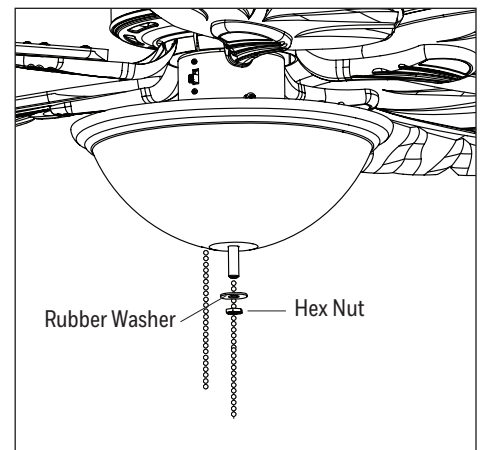

Figure 5.9
- Feed the pull chain coming from the switch housing through the off-center in the glass bowl. Then, feed the pull chain coming from the center of the light kit through the center hole in the glass bowl. Secure with rubber washer and hex nut (Figure 5.9).